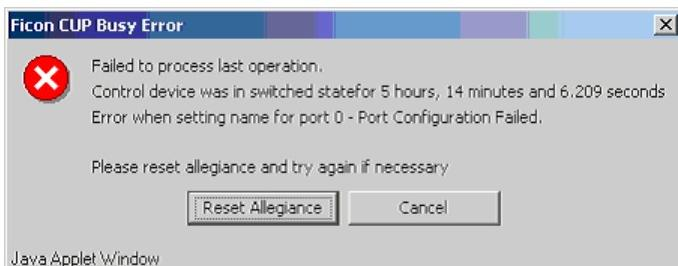

Figure 43 FICON CUP busy error
The Control Device is in either a neutral or a switched state. When it is neutral, the Control Device accepts commands from any channel that has established a logic path with it and accepts commands from alternate managers. When the Control Device is switched, it establishes a logical path and accepts commands only from that logical path (device allegiance). Commands from other paths cause a FICON CUP Busy Error (see Figure 43). Most write operations from alternate managers are also rejected.
You can manually reset allegiance to bring the Control Device back to the neutral state by clicking Reset Allegiance in the FICON CUP Busy Error display (see Figure 43).
4. Click **Reset Allegiance** in the error message to reset the Control Device state to its correct state (see Figure 43 on page 116).